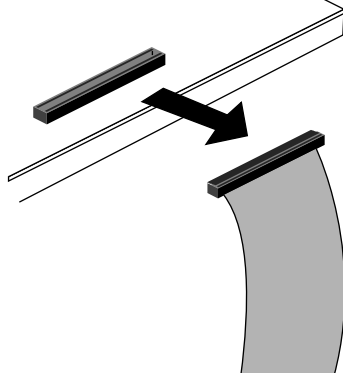

Figure 5-18 Disconnecting the Ribbon Cable
2. Disconnect any ribbon cable from the top board. See Figure 5-18. If you have no ribbon cable, go to step 3. Ribbon cable connectors push together and pull apart.
- Pinch the connector on the sides and pull away. See Figure 5-18.